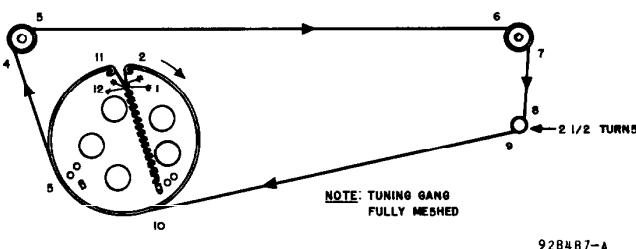

Fig. 7. TUNING Dial Cord Stringing
2. Tie one end of a 48 inch length of 30 lb. test dial cord to the spring at position 1. See Fig. 7.